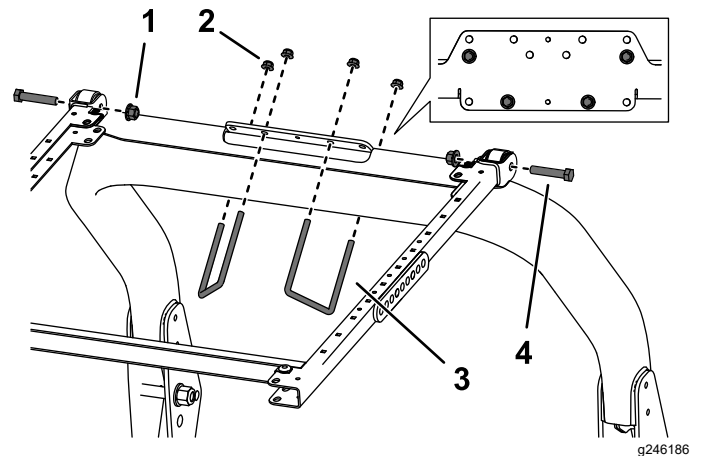

Figure 38
- Position the ROPS-mount bracket onto the top of the traction unit roll bar (Figure 38). Ensure that the roll bar is centered in the ROPS-mount bracket.
- Using the mounting holes shown in Figure 38, mount the ROPS-mount bracket to the top of the roll bar with 2 U-bolts (3-1/2 x 5 inches) and 4 flange nuts.